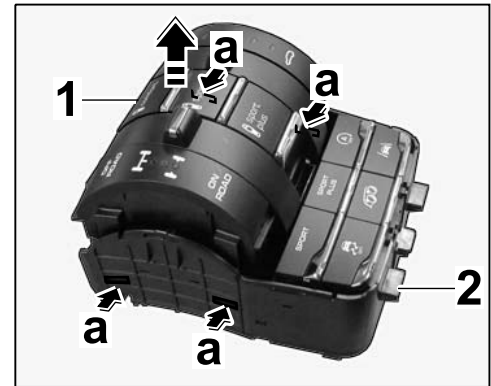

Figure 5
2.2 Release combined switch (⇒ *Figure 5 -a-*) and pull it out of the keypad (⇒ *Figure 5*).